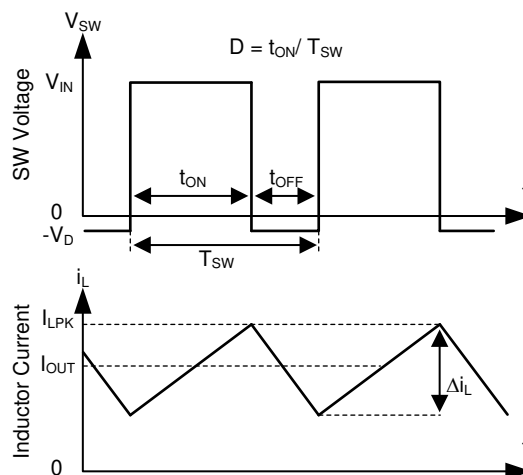

Figure 7-1. SW Node and Inductor Current Waveforms in Continuous Conduction Mode (CCM)
The following operating description of the LMR23615 refers to Section 7.2 and to the waveforms in Figure 7-1. The LMR23615 device is a step-down, synchronous buck regulator with integrated high-side (HS) and low-side (LS) switches (synchronous rectifier). The LMR23615 supplies a regulated output voltage by turning on the HS and LS NMOS switches with controlled duty cycle. During high-side switch ON-time, the SW pin voltage swings up to approximately V_{IN} , and the inductor current i_L increase with linear slope $(V_{IN} - V_{OUT}) / L$. When the HS switch is turned off by the control logic, the LS switch is turned on after an anti-shoot-through dead time. Inductor current discharges through the LS switch with a slope of $-V_{OUT} / L$. The control parameter of a buck converter is defined as duty cycle $D = t_{ON} / T_{SW}$, where t_{ON} is the high-side switch ON time and T_{SW} is the switching period. The regulator control loop maintains a constant output voltage by adjusting the duty cycle D . In an ideal buck converter, where losses are ignored, D is proportional to the output voltage and inversely proportional to the input voltage: $D = V_{OUT} / V_{IN}$.